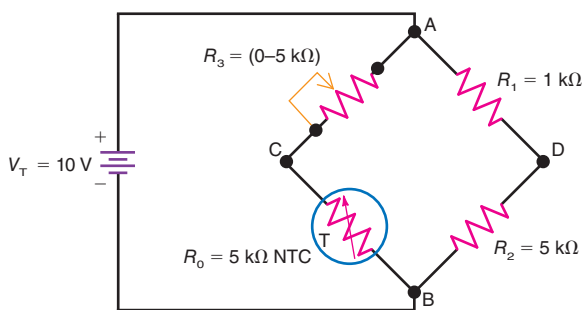

Figure 7-32
PROBLEMS 23–25 Refer to Fig. 7-32.
- 7.23** In Fig. 7-32, to what value must R_3 be adjusted to provide zero volts across terminals C and D when the ambient temperature, T_A , is 25°C ? (Note: R_0 is the resistance of the thermistor at an ambient temperature, T_A , of 25°C .)
- 7.24** In Fig. 7-32, assume that R_s is adjusted to provide zero volts across terminals C and D at an ambient temperature, T_A , of 25°C . What happens to the polarity of the output voltage, V_{CD} , when
- 7.25** In Fig. 7-32, assume that R_3 has been adjusted to 850Ω to provide zero volts across the output terminals C and D. Determine